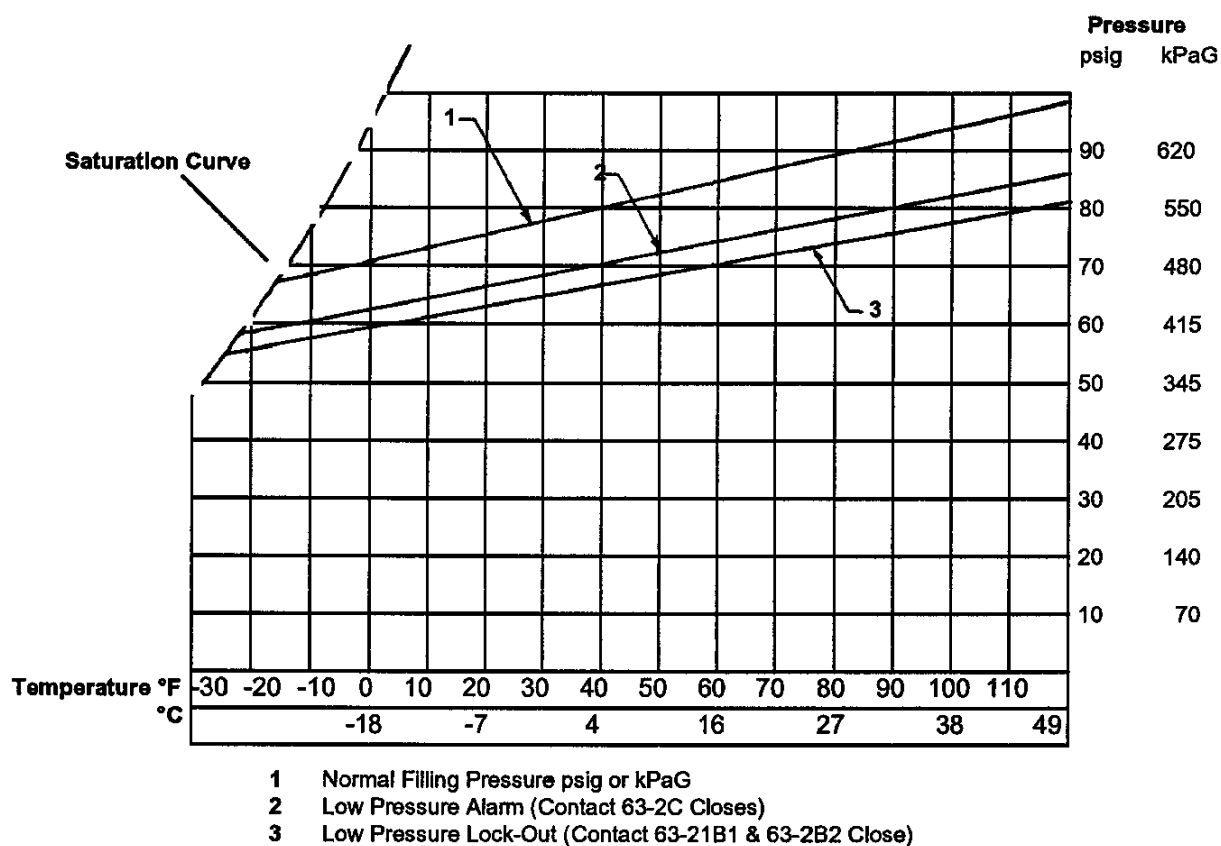

Figure 3
1. Refer to the SF₆ Gas Density Monitor Calibration Curve and Chart (Figs. 3 and 4) to determine the proper alarm and lock-out pressure settings for the current ambient temperature.
Tabular Version of the Pressure vs. Temperature Characteristics shown in Figure 3
Set each switch to the pressure indicated in Figures 3 and 4.